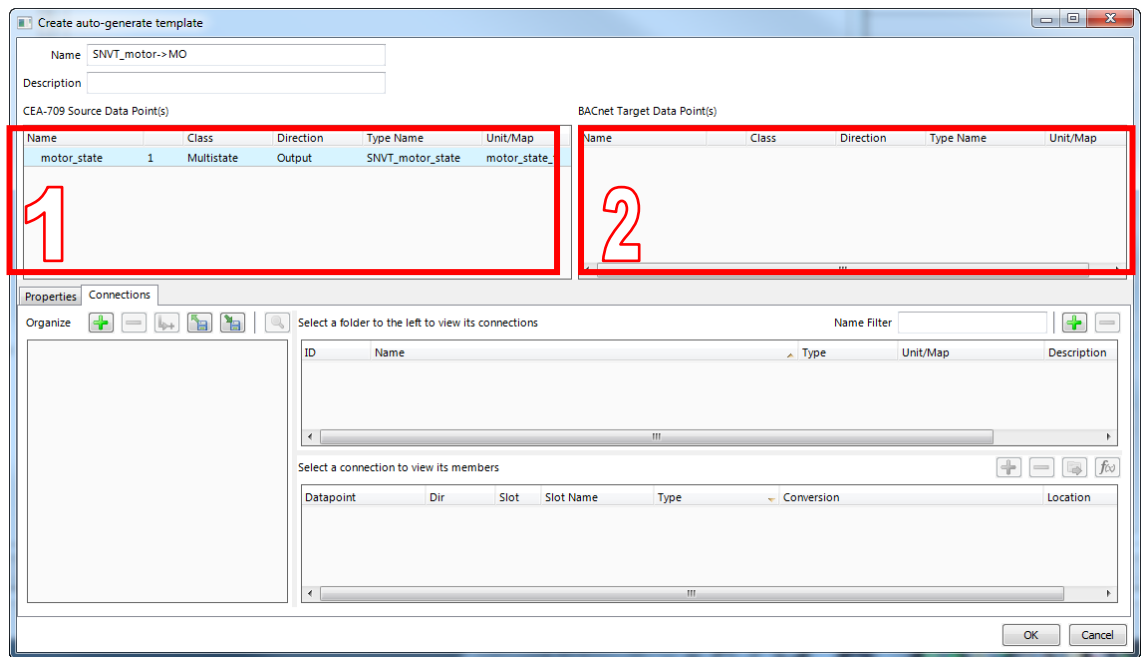

Figure 218: Auto-generate template editor.
3. The auto-generate template editor opens as shown in Figure 218. It contains two data point lists. The left-hand (denoted '1') list is pre-filled and contains the selected source data points. They are locked and cannot be modified. The right-hand list (denoted '2') is intended for creating the desired target data points.